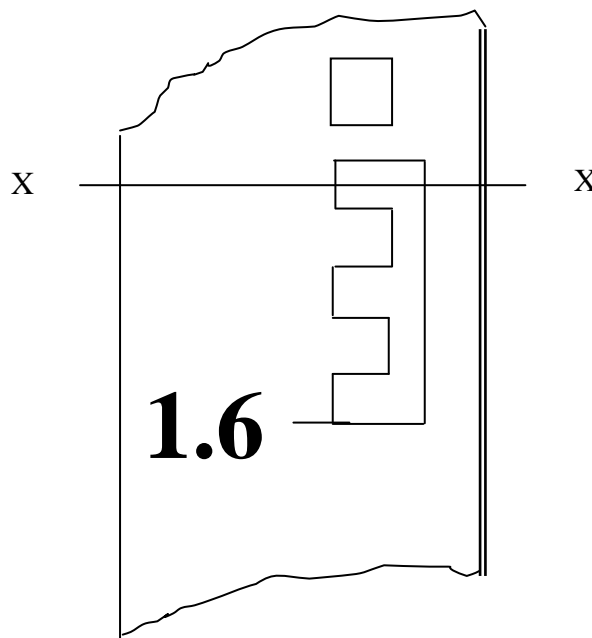

FIGURE 10
22. Figure 10 shows part of levelling staff.